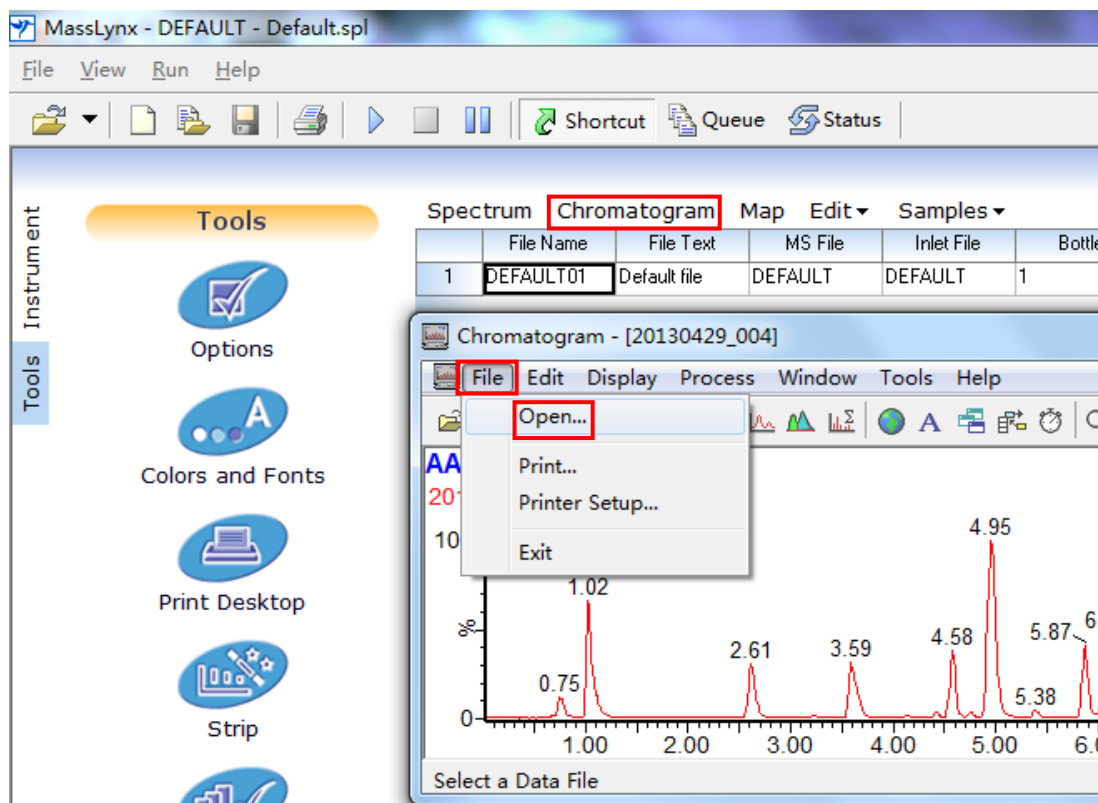

Figure 1. Assign the working folder in MassLynx.
1. Steps 1 to 3 can be skipped if the LC-MS data was acquired in the centroid mode. If the data was acquired in the profile mode, to convert the profile spectrum to the centroid spectrum, first assign the folder containing the raw data as the working folder in MassLynx by clicking: Chromatogram → File → Open... (Figure 1).